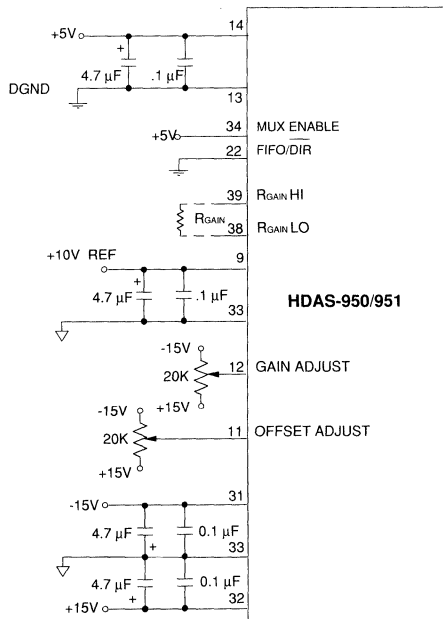

Figure 2. Typical Connection Diagram
1. Connect the converter per Figure 2 and Table 2 for the appropriate full-scale range (FSR). Apply a pulse of 1.0 μ sec (typical) to the START CONVERT input (pin 20) at a rate of 50 KHz. This rate is chosen to reduce flicker if LED's are used on the outputs for calibration purposes.